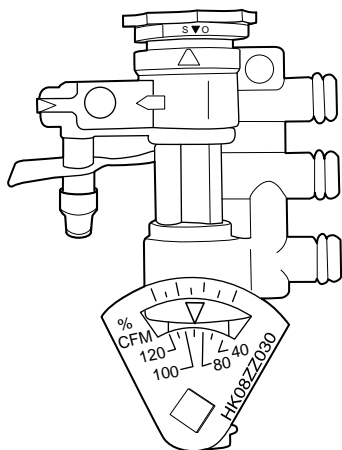
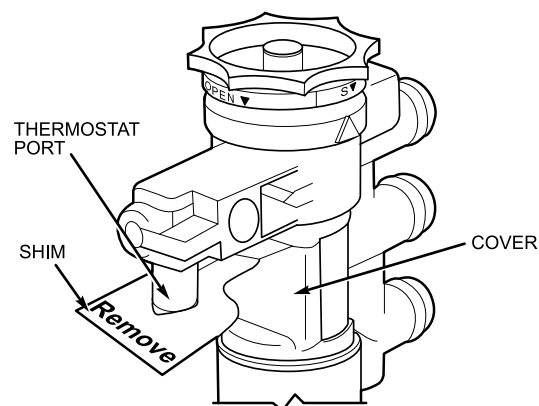

Fig. 8 — Setting Maximum Volume — 37HS Controller
Fig. 9 — Shim Removal
7. Remove cap on thermostat port of volume controller. Pull shim down until released from port and then pull shim out from body of volume controller. Discard shim. Figure 8 shows the volume controller and Fig. 9 shows the shim removal.